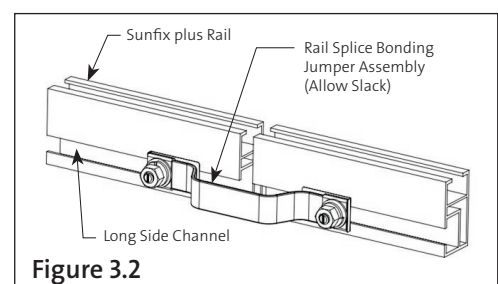

Figure 3.2
- 3.2. For rail-to-rail electrical continuity (bonding), a Rail Splice Bonding Jumper Assembly ⑥ is used. To install, insert assembly's T-bolts into the channel on the long side of rail and secure, similar to Steps 2.1 and 2.2. Be sure to allow slack in jumper to allow for thermal expansion. Refer to **Figure 3.2**. Tighten to 12 ft-lbs using general purpose anti-seize compound.